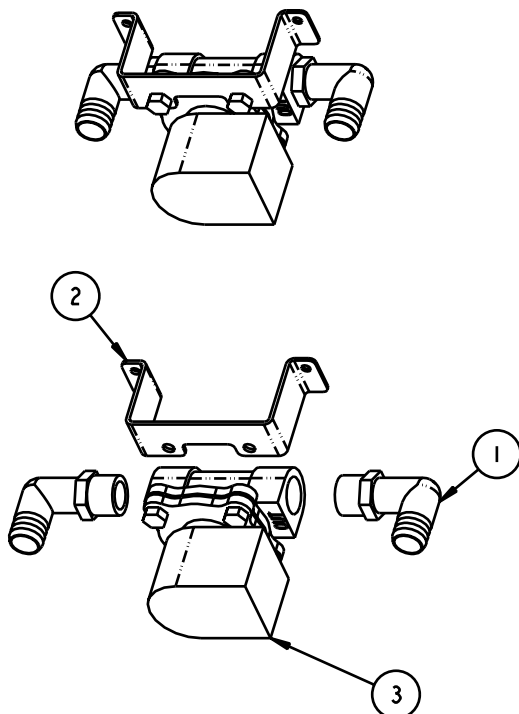

Figure 1
3. Apply a strip of Teflon tape to the threads of the plastic elbow adapters. Screw them into each side of the solenoid valve so that the barbed end are out towards the electric junction box. Remove the two top bolts (when IN is to your left) and attach the mounting bracket. (Figure 1)